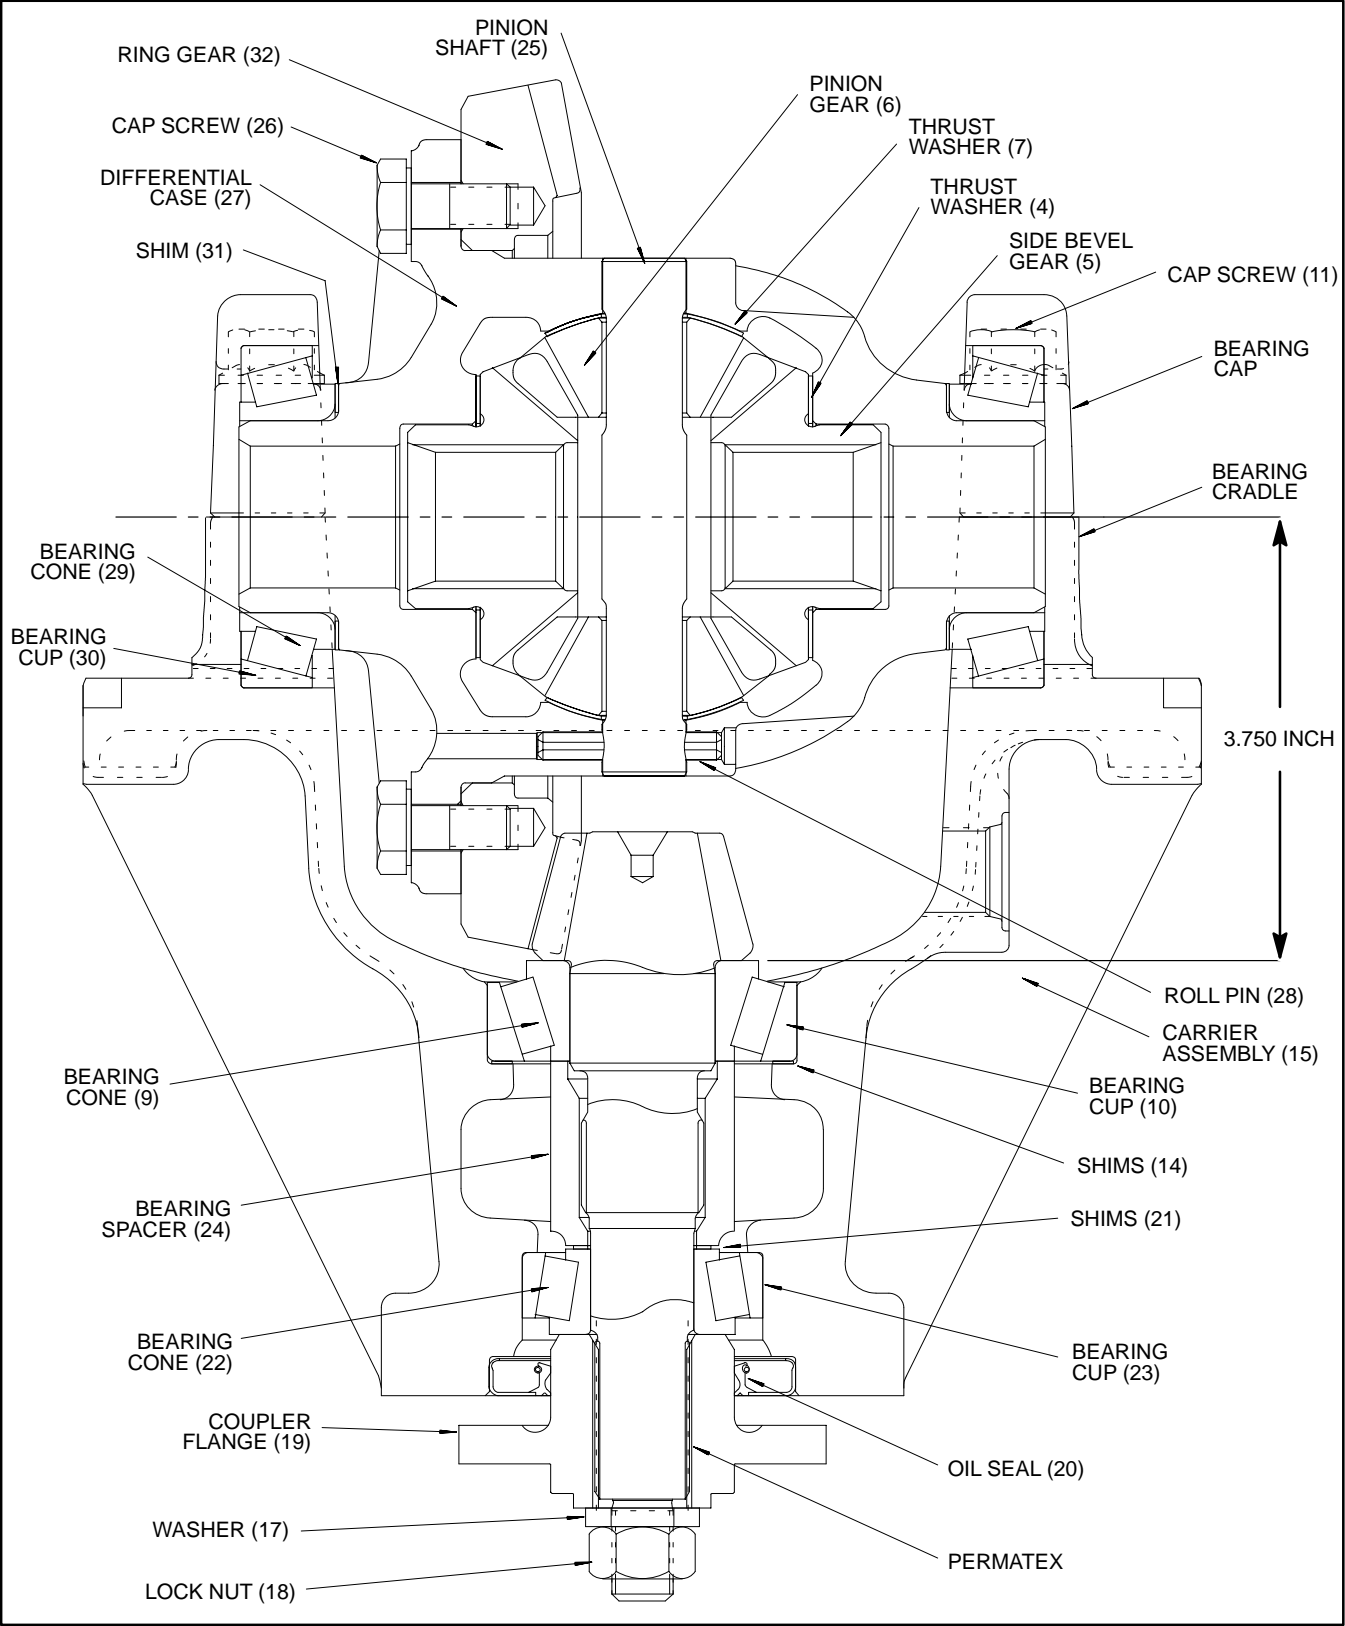

Figure 42
The distance from the center line of the ring gear to the bottom of the pinion gear teeth is 3.750 inches (5.525 cm). This distance represents the best running position for the gear set (Fig. 42).
4. If a **new** carrier assembly (15) is being installed, proceed as follows:
A. Press bearing cup (10) into the assembly with out any shims (14).
B. Place pinion gear (8) with bearing cone (9) installed into the carrier assembly and bearing cup.
C. Measure and note distance from the centerline of the ring gear to the bottom of the pinion gear teeth using a depth micrometer (Fig. 42 and 47).